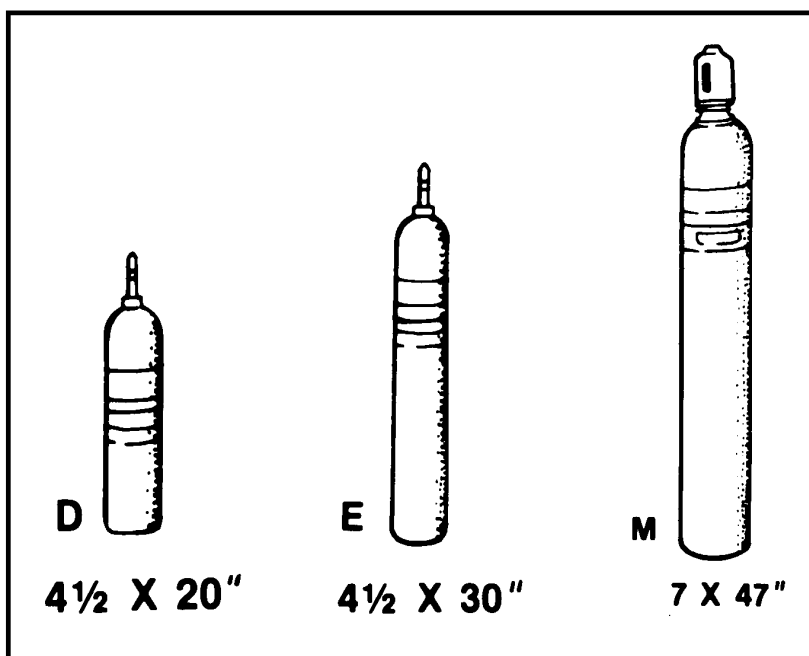

Figure 3-8
- a. Oxygen tank (cylinder). (See Figure 3-8.)